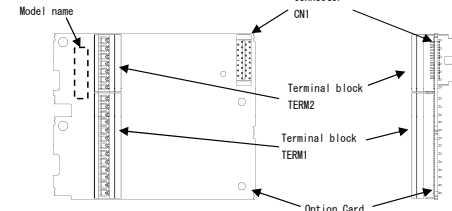

Figure 1.1 Product Appearance.
- The model name "OPC-PR" or "OPC-PS" or "OPC-PSH" is printed on the option card. (See Figure 1.1.)